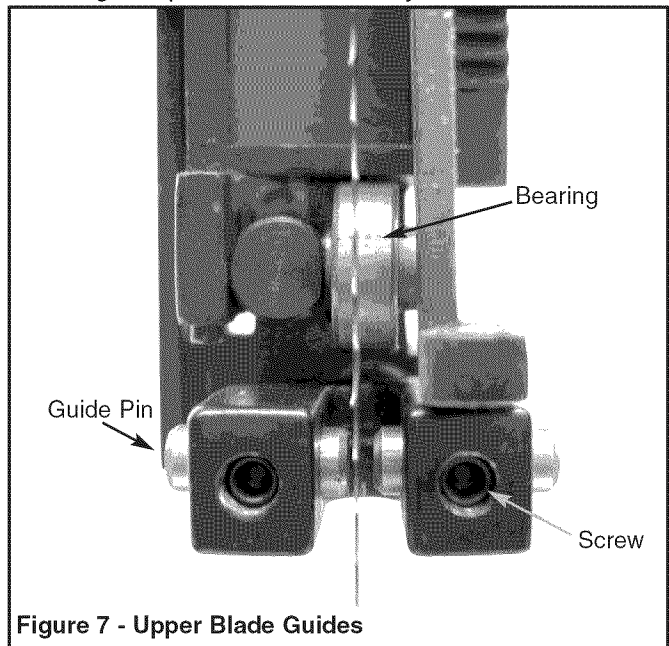

Figure 7 - Upper Blade Guides
- Loosen screws and adjust guide pins to sides of the blade (see Figure 7). Use a feeler gauge to check that guide pins are 0.002" away from blade.